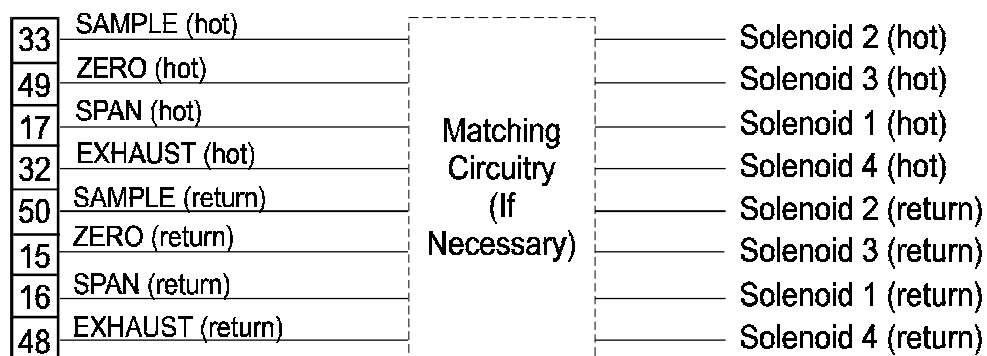

Figure 3-5: Remote Probe Connections
- Span:** Floating input. 5 to 24 V input across the + and – pins puts the analyzer into the *Span* mode. Either side may be grounded at the source of the signal. 0 to 1 volt across the terminals allows *Span* mode to terminate when done. A synchronous signal must open and close external span valve appropriately. See Figure 3-5 *Remote Probe Connector*. (The –C option internal valves operate automatically.)
**Remote Valve Connections:** The Ultra Trace 3000 is a single-chassis instrument, which has no Remote Valve Unit. Instead, the Remote Valve connections are used as a method for directly controlling external sample/zero/span gas valves. See Figure 3-5.